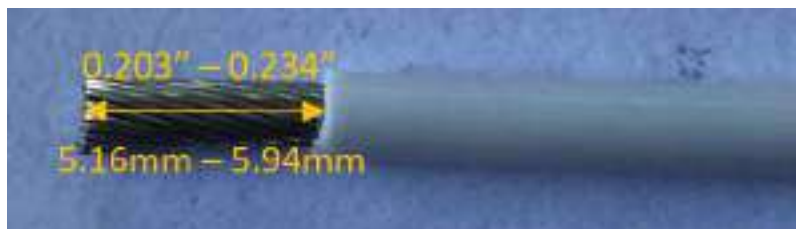

Figure 230
1. Compress coil connectors together and slide heat shrink over connectors, cables and pass-thru until heat shrink is in proper position as shown in Figure 230. The heat shrink in Figure 228 is already recovered. The picture is only to show position.
- Using wire strippers or equivalent, carefully strip 0.203in. to 0.234in. (5.16mm to 5.94mm) of wire insulation as shown in Figure 230.